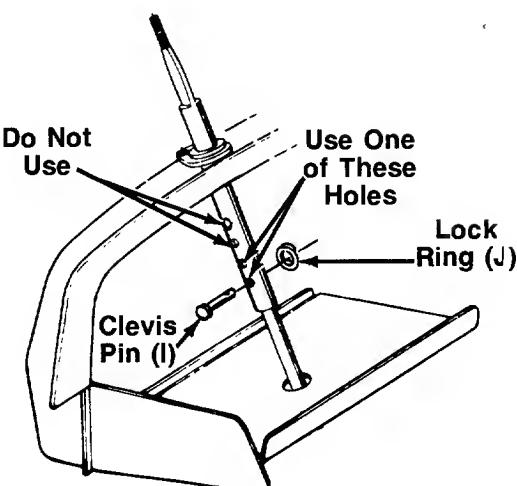

FIGURE 2.—Models 704 and 714 Shown
1. For shipping purposes, the upper steering shaft is pushed all the way down over the lower steering shaft. Pull the upper steering shaft up. The holes in the shaft provide steering wheel height adjustment. When securing the two halves of the steering shaft, select one of the two lower holes in the upper shaft as shown. **Do not use the two upper holes.** Secure with clevis pin (I) and lock ring (K). See figure 2.